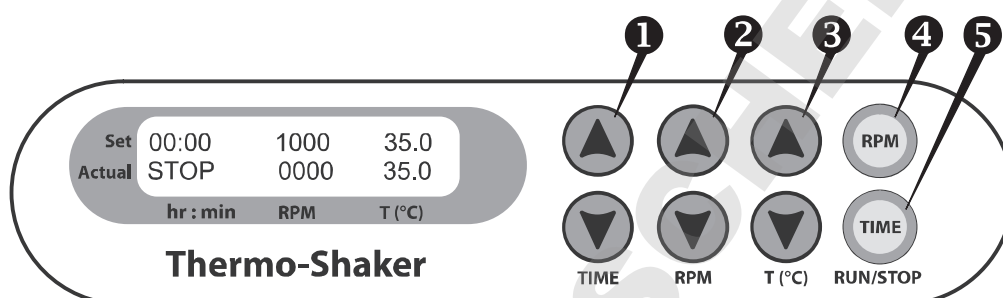

Fig. 1 Control panel
- 4.3 Using the ▲ and ▼ keys (Fig. 1/①) set the required working time interval in hours and minutes (increment - 1 min). Pressing the key for more than 3 s will increase the increment.
- 4.4 Using the ▲ and ▼ keys (Fig. 1/②) set the required speed (increment 10 RPM). Pressing the key for more than 3 s will increase the increment.
- 4.5 Using the ▲ and ▼ keys (Fig. 1/③) set the necessary temperature (increment 0.1°C). Pressing the key for more than 3 s will increase the increment.
4.7 Press the **RPM-RUN/STOP** key (Fig. 1/④). The platform will start rotating and the timer indicator will start counting up the time interval (with 1 min precision).
4.10 The timer can be reset during operation if required. Press the **TIME-RUN/STOP** key once (Fig. 1/⑤) to stop the timer. Press the **TIME-RUN/STOP** key again to restart the timer.
Caution! At the end of the set time period the platform movement is stopped automatically, but the heating can be stopped only by reducing the temperature using the $\nabla T(^{\circ}\text{C})$ key (Fig. 1/⑥ lower key) till the OFF sign appears in the upper part of the display.
Following error codes are show in the lower right corner of the display (fig. 1), accompanied by a sound signal every 8 s. Press **RPM RUN/STOP** key to turn off the signal. Please contact our Service Department in the UK or, in other countries, our distributor.